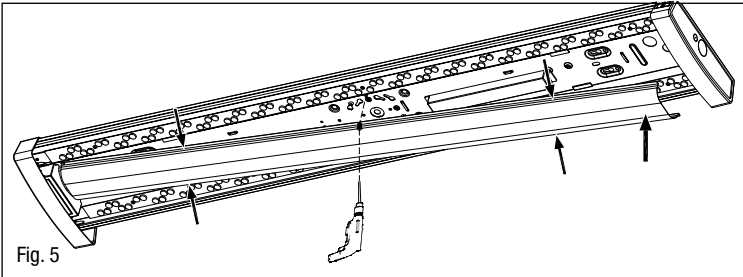

Fig. 5
7. The drill is used to secure the screw and stabilize the wireway. Replace wire way cover under tabs in fixture body. Make sure no wiring is pinched between cover and body. (Fig. 5)